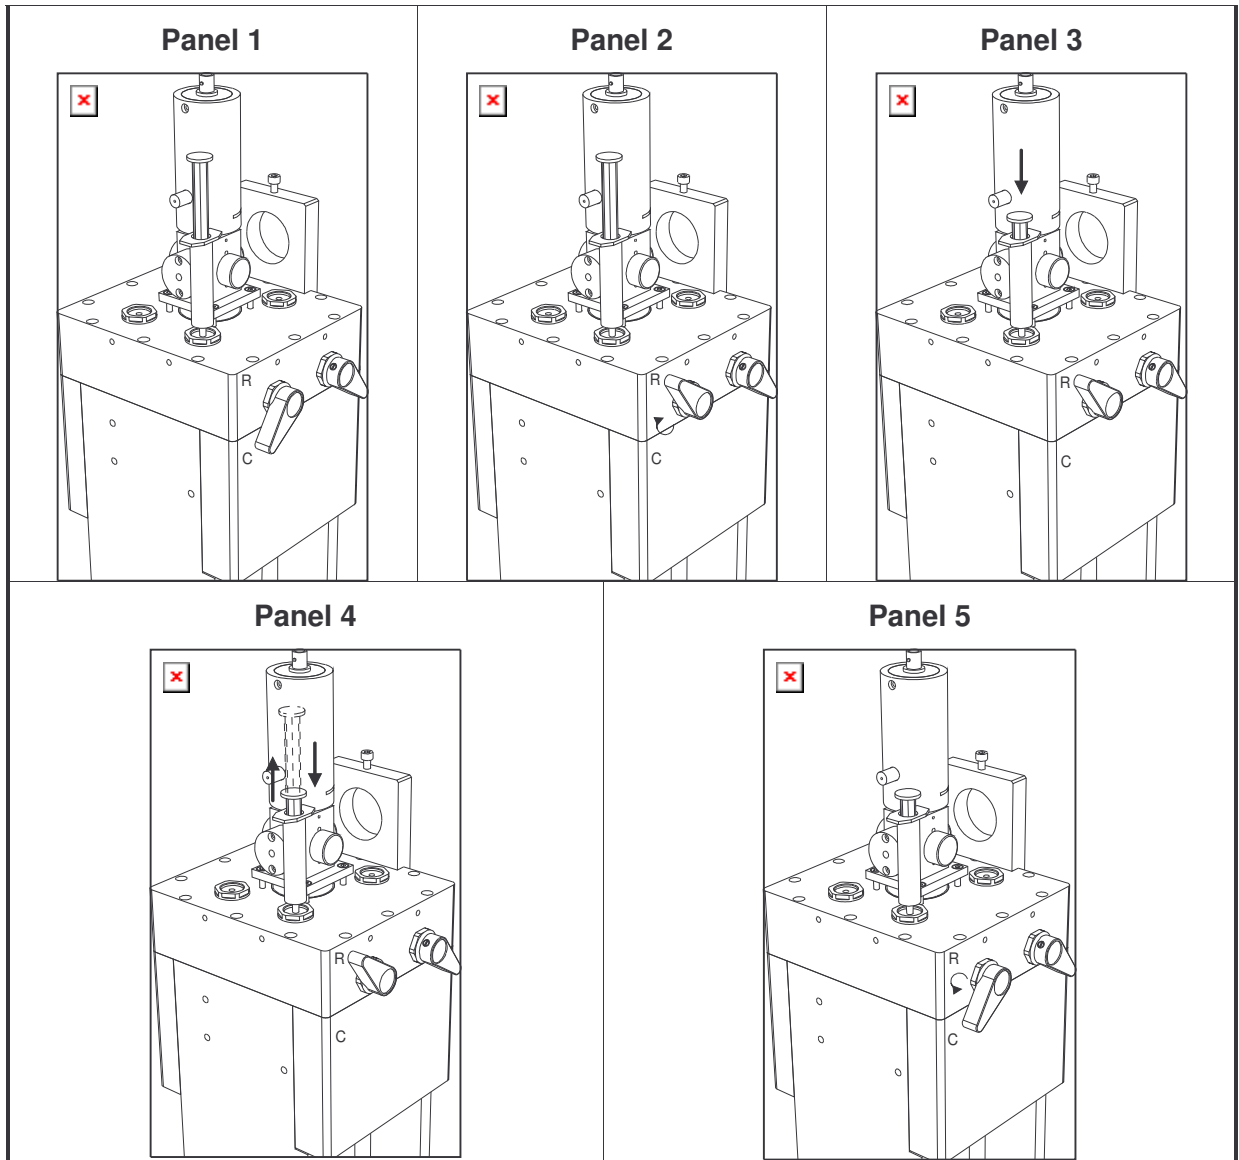

Figure 22 – SFM Syringe filling procedure
The syringes of the SFM can be emptied and filled manually (section 5.1). The filling of the syringes follows the steps below which are shown in Figure 22.
- 1) Attach a syringe (disposable plastic syringes may be used) containing sample or buffer to a syringe reservoir port on top of the SFM (Figure 22, Panel 1).
- 2) Set the syringe valve handle to **(R)** and fill the syringe manually (section 5.1) while exerting slight pressure on the reservoir syringe (Figure 22, Panel 2 and 3). The pressure exerted on the reservoir syringe prevents any vacuum from occurring in the reservoir syringe, which could result in bubble formation. It is suggested that 10ml syringes be filled using manual speed 4 in Bio-Kine and 1.9ml syringes be filled using manual speed 2.
- 3) Eliminate any bubbles in the SFM syringe by driving the SFM syringe up and down several times while it is connected to the reservoir syringe (Figure 22, Panel 4).
- 4) Turn the syringe valve handle to **(C)** (Figure 22, Panel 5)